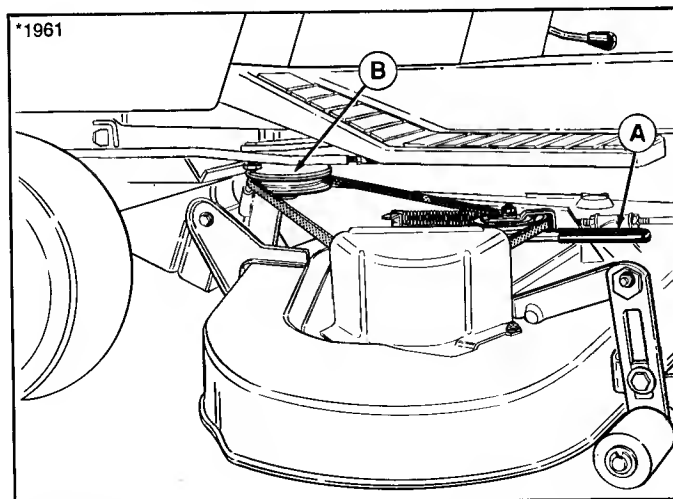

Figure 16.
2. On left hand side of tractor, push or pull idler pulley arm (A, figure 16) to relieve belt tension. On 44" mowers, pull lever toward you (outside of tractor); on 38" mowers, push lever away from you (towards inside of tractor).
3. With belt tension relieved, remove belt from electric clutch pulley (B, figure 16). Removing belt relieves the tension on the front hitch assembly.